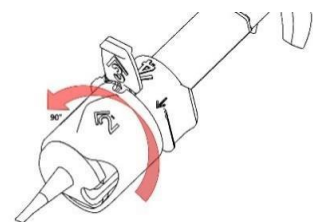

Fig. 2a
5. Turn the transparent rotatable ring as indicated by the flat arrow marked with '2' counter-clockwise by 90 degrees until it snaps into place with a distinct "click" (Fig. 2a).